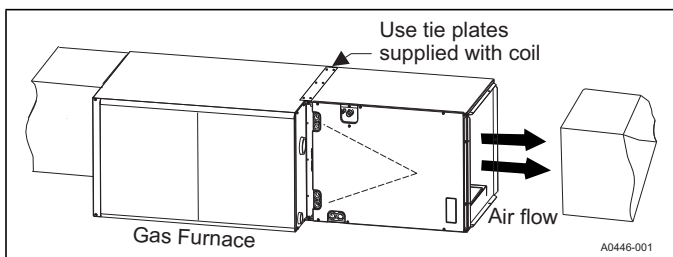

FIGURE 7: Horizontal Left or Right Application (Right Shown)
*Each coil is shipped with external tie plates that should be used to secure the coil to the furnace. They should be installed on the back and both sides of the coil using sheet metal screws. See Figure 7.*